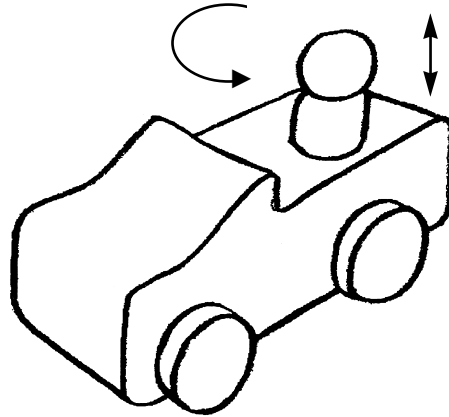

Figure 14
- (c) The diagram **Figure 14** shows a simple pull along toy that a toy maker wishes to produce. He wants the head and body of the driver to go **up** and **down** and **rotate** as the toy is pulled along. In the space below show how a mechanism including a cam may be used to satisfy this design requirement. You may use whatever drawing format you wish. Add notes to your drawing to explain how it works.